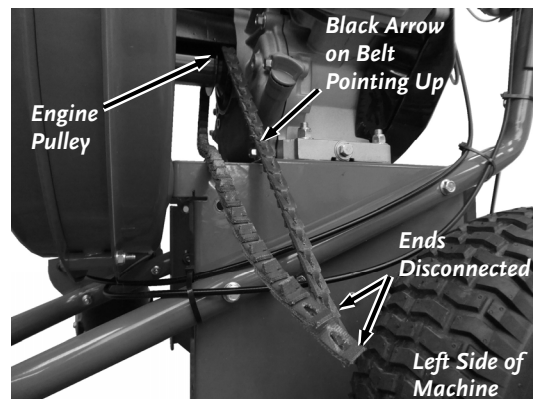

Figure 28
1. Install the end of the Belt around the Engine Pulley from the left side of the machine with the small black arrow on the Belt pointing up (**Figure 28**).